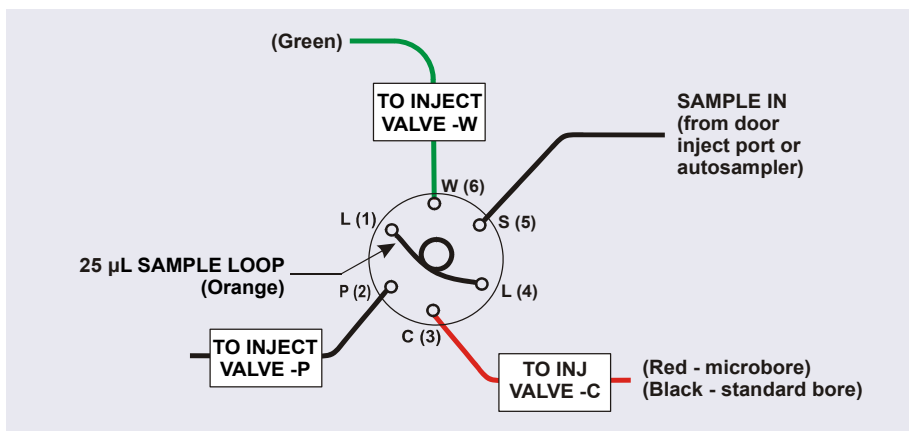

Figure 2-66. Injection Valve Plumbing (6-Port Valve)
Figure 2-66 shows the injection valve connections for the 6-port valve. The injection valve is plumbed at the factory with all tubing and fittings for connection to the pump, sample loading port, column, and waste. A 25 μ L PEEK sample loop (P/N 042857) is installed between ports L (1) and L (4).